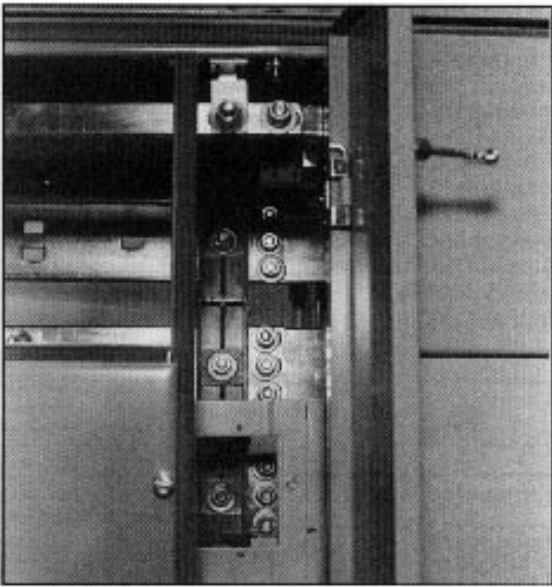

Fig. 5 Access to LH Splice Plate connections
3. Remove the upper horizontal wireway door from the structure on the right side of the left-hand (LH) section and remove the two-piece wireway barrier to provide access to the ends of the bus in that section.
7. Bolt the horizontal bus splice plates to the bus in the left-hand structure, torquing all bus splice bolts to 275 pound-inches (23 pound-feet). See Figure 5.